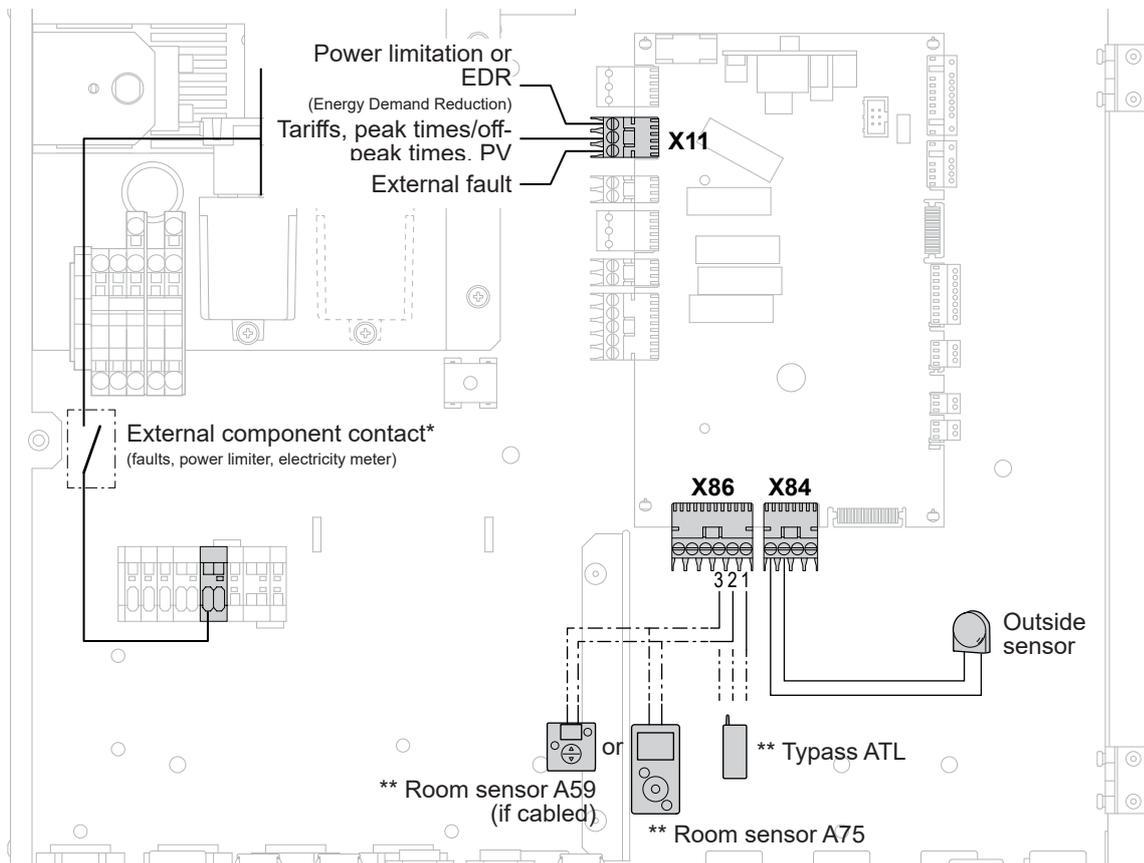

fig. 40 - Connections on the heat pump controller (accessories and options)
- Make the connections according to the diagram (*fig. 40, page 43*).
- Connect the "Power Provider" contact to input EX2 (*fig. 40, page 43*).
- Connect the power limiter device to input EX1 (*fig. 40, page 43*). Heat pump and DHW backups will be shut off in the event of over-consumption by the dwelling.
- Connect the external component to input EX3 (*fig. 40, page 43*).
- Connect the outdoor sensor to connector **X84** (fig. 40) (terminals **M** and **B9**) on the heat pump control board.
#### • Room sensor A59 (if cabled) (fig. 40)
#### • Room sensor A75 (fig. 40)
- Connect the Typass ATL to connector **X86** (fig. 40) on the HP control board using the connector provided (terminals **1**, **2** and **3**).